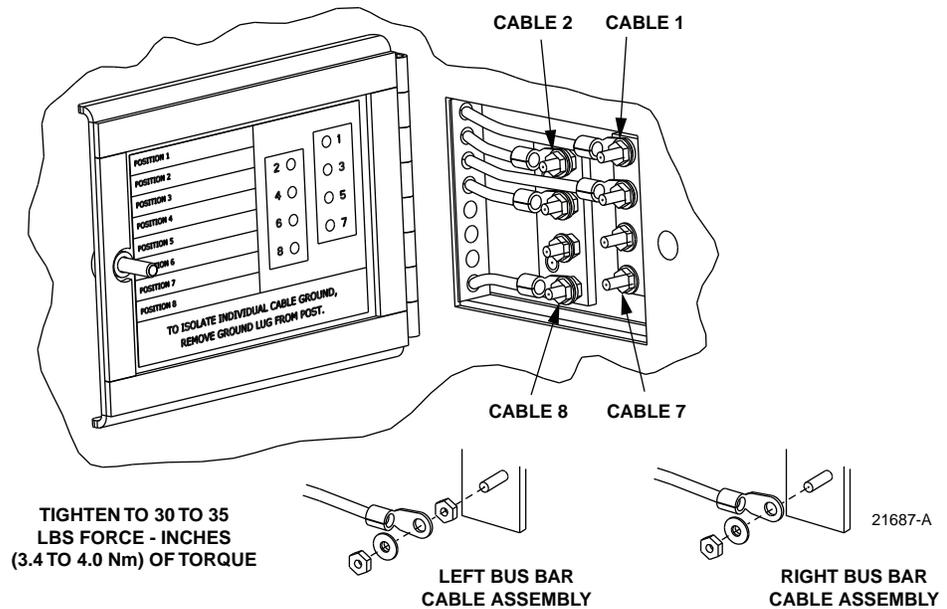

Figure 26. Cable Grounding System - Exterior View
- Open the grounding system access cover located at the rear side of the cabinet as shown in Figure 26.